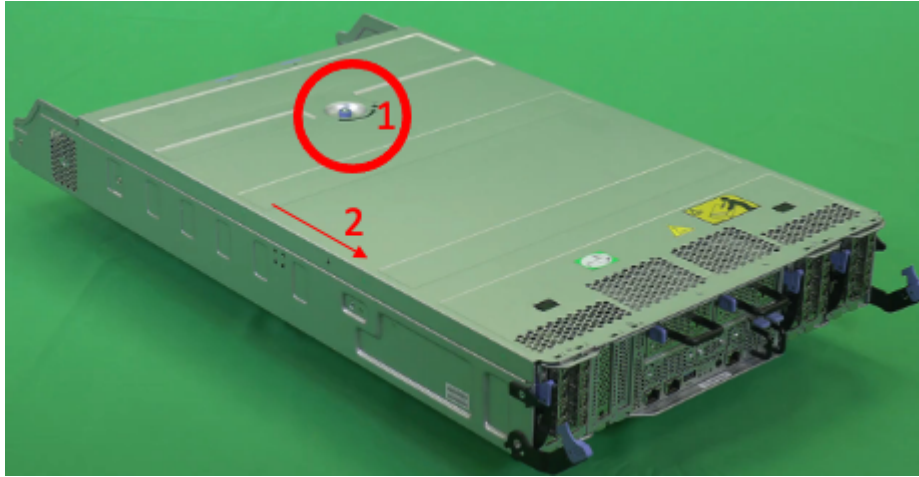

Figure 80. Removing the node canister cover
3. Slide the cover of the node canister towards the handles and then lift the cover off of the node canister, see Figure 80 on page 137.